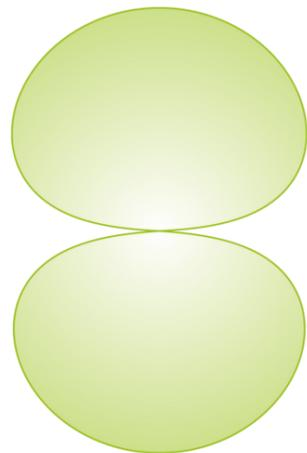

Figure-8
Using both outputs of the LCT 640 TS while recording is like capturing the whole session instead of just recording an isolated source. It adds the freedom of changing the polar pattern dynamically from cardioid all the way to figure-8 during post-production. In fact, while mixing your track, you could still turn your microphone by 180° although you finished your recording days ago. And we haven't even touched all the possibilities of two LCT 640 TS in a stereo-stereo setup ...
The LCT 640 TS provides the signal of the front and the back of the capsule separately. That way any kind of polar pattern from omnidirectional to cardioid, to figure-8 can be realized dynamically. And the most fascinating fact; you can **change the polar pattern after the recording** during post-production.
Use center pushbutton to select polar pattern; omni // wide cardioid // cardioid // supercardioid // figure-8. Only available in Multi-pattern Mode! Not illuminated in Dual Output Mode!
Recordings done using the Dual Output Mode can be manipulated in a unique way. Even after the recording session, you can fine-tune the polar pattern seamlessly all the way from omnidirectional to figure-8 as well as turn the recording direction of the microphone by 180° as if you have used these settings during the actual recording.
The omni pattern has the same sensitivity to sound pressure coming from any direction. Therefore, recordings being done in a bad sounding room using an omni polar pattern might not lead to a satisfying result. In most live situations where the picked up signal is monitored and played back through the PA feedback will definitely occur. It will shine in good sounding rooms and time based stereo recording techniques. The omni pattern picks up very high frequencies with more directivity leading to higher side rejection of the signal for these frequencies (this effect turns the omni into figure-8 at the 16 kHz mark). An omni pattern provides the best bass response, flattest frequency response, and is the least sensitive to handling or wind noise in comparison to all other polar patterns.
### // Figure-8
The figure-8 pattern has the same sensitivity at  $0^\circ$  and  $180^\circ$ , it is the least sensitive at  $90^\circ$  and  $270^\circ$ . It is often chosen for various stereo recording techniques (Mid Side, Blumlein). It can also be very helpful in situations where you do not want a signal coming from a  $90^\circ$  angle to bleed into the microphone.
|                                    | Omni | Wide cardioid | Cardioid | Super cardioid | Figure-8 |
Usually MS stereophony is only possible using two microphones. A cardioid, supercardioid or omni for the MID-signal which points directly at the sound source, and a figure-8 turned sideways, for the SIDE-signal. With the LCT 640 TS you can do something similar, but you only need one microphone!
- // Set one stereo track to omni, and the other two to figure-8.
- // Pan the first figure-8 track hard left and the second hard right.
- // Switch the phase on one of the two figure-8 tracks.
- // By changing the ratio between the omni and figure-8's you can adjust the stereo width.
The XY stereo technique is based on level differences between 2 directional microphones. Their capsules are placed together as close as possible and one microphone points right the other one left. The opening angle is variable but usually at least 90°. XY stereo recording techniques are excellent for locating individual sources in a recording and are mono compatible. A special XY recording technique is “Blumlein”, named after Alan Blumlein, a pioneer in stereo recording. It consists of 2 figure-8 microphones with an opening angle of 90°. It is known for it's very balanced and natural sound.